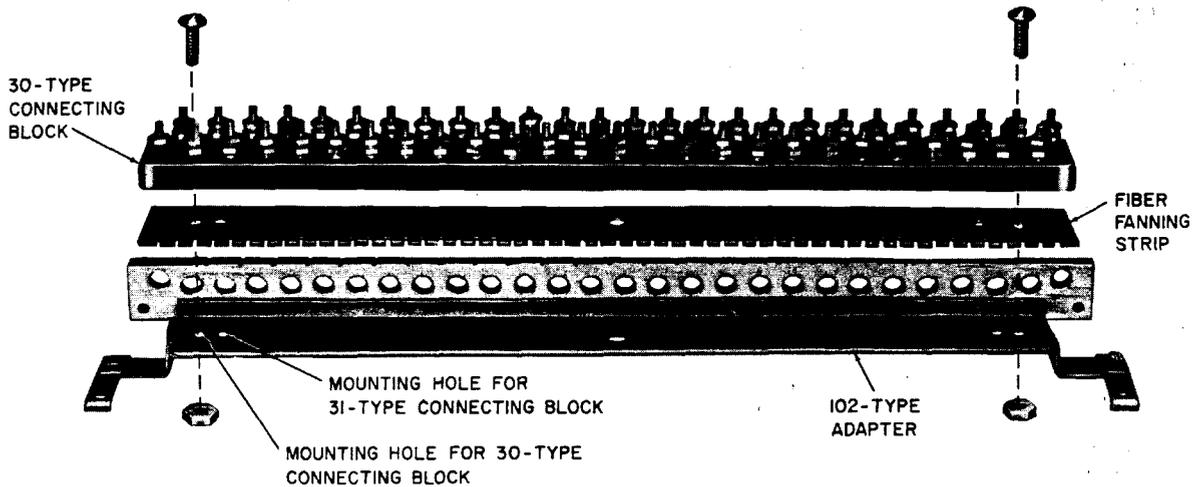

Fig. 3—Assembly of Connecting Block, Fanning Strip, and Adapter
3.03 Two machine screws, P-210648, and two nuts, P-375850, are furnished with each adapter to secure the connecting block to the adapter. The fiber fanning strip serves to retain the cable or inside wire conductors in the proper positions. (See Fig. 3.)